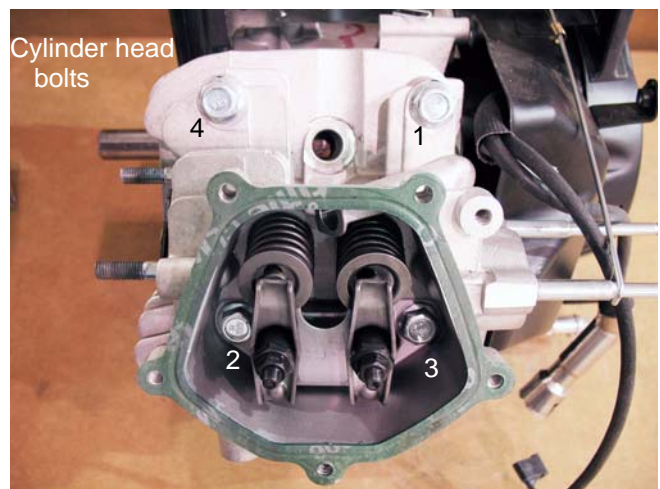

Figure 9.5
- Remove the cylinder head bolts using a 12mm wrench. See Figure 9.5.